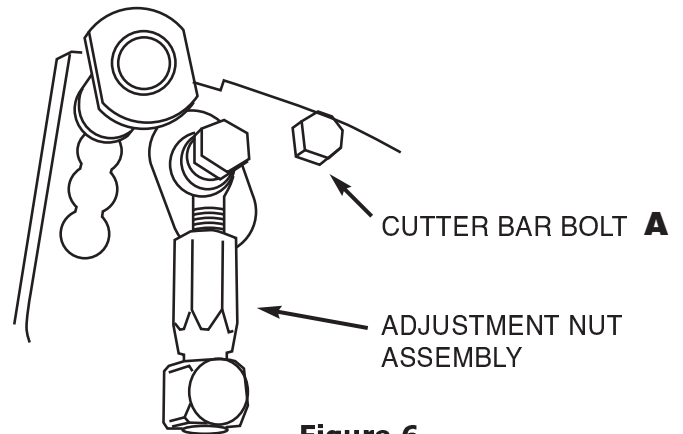

Figure 6
Make certain that the bolts which are threaded into the cutter bar are tight, to eliminate any play or looseness, before beginning adjustment of the cutter bar (fig.6) The short cutter bar bolt (A) must be turned counter clockwise to tighten on the side shown in figure 6. The cutter bar bolt on the opposite side has a regular thread.
Using a 9/16" wrench, turn the adjustment nut approx. 1/8 turn clockwise to increase the contact between the reel bedknife (fig.6). Turn the adjustment nut counterclockwise 1/8" turn to decrease the contact between the reel and bedknife. Adjust each side equally until there is minimal contact.